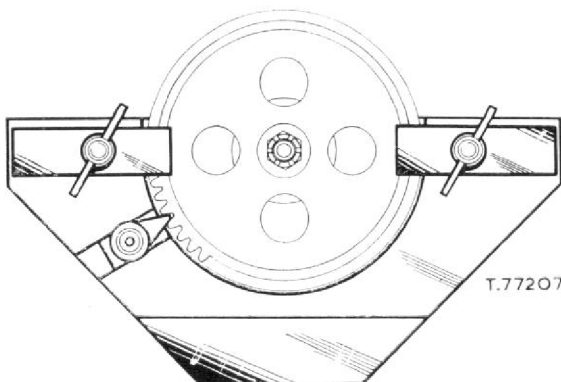

Fig. 15. Vice block T.77207 for facilitating removal of split pin and slotted nut from air compressor drive.
4. Secure vice block T.77207 in a vice and clamp the compressor drive gear in it, (Fig. 15). Withdraw the split pin and remove the slotted nut and plain washer from the bevel gear extension.